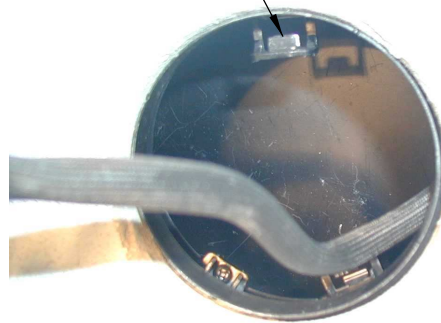

Fig.1
4. Ensure the two SECURING CLIPS are in the disengaged position. *Fig. 1 on pg. 2*. Align the two THICK CEILING READY BRACKETS with the SECURING CLIPS and insert TRIM BODY up until the bottom of TRIM BODY is flush or slightly recessed from bottom of ceiling plane. Properly engage SECURING CLIPS by pushing them into THICK CEILING READY BRACKETS. *Fig's 2 & 3 on pg. 2*